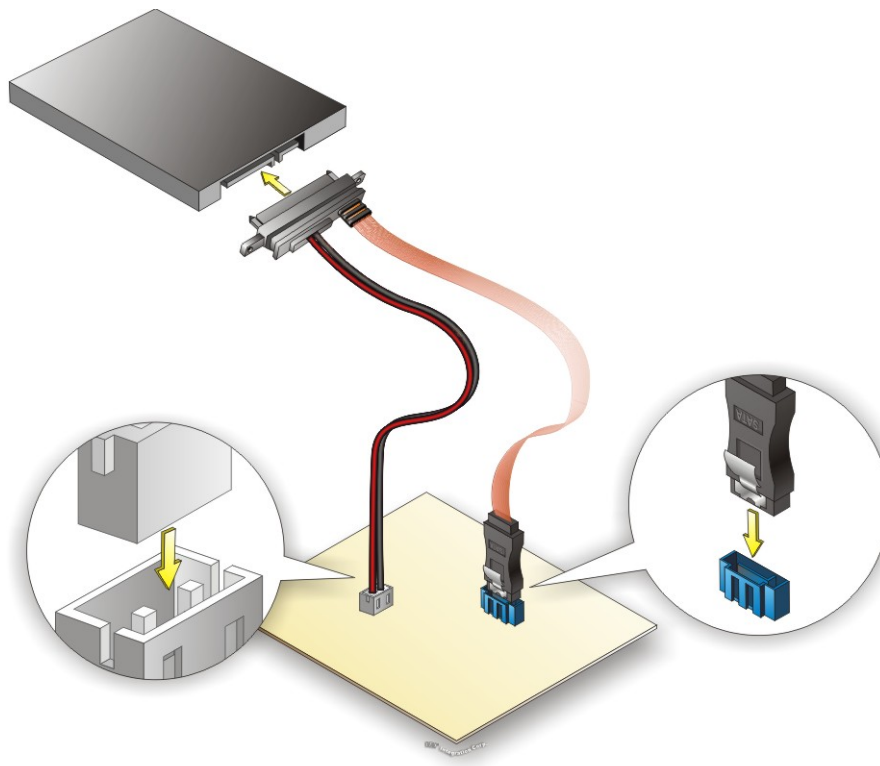

Figure 4-21: SATA Drive Cable Connection
Step 2: **Insert the cable connector.** Insert the cable connector into the on-board SATA drive connector and the SATA power connector. See **Figure 4-21**.
Step 3: **Connect the cable to the SATA disk.** Connect the connector on the other end of the cable to the connector at the back of the SATA drive. See **Figure 4-21**.